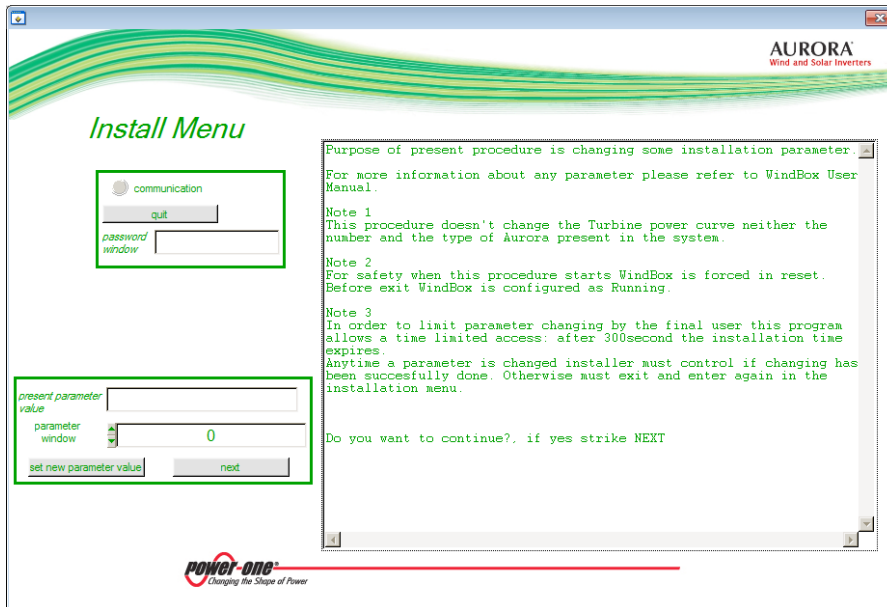

Figure 1
1) From the main screen of software WindBoxCVI, after having pressed the key “Reading”, click on “Install Menu”. The screen shown in figure 1 will appear.